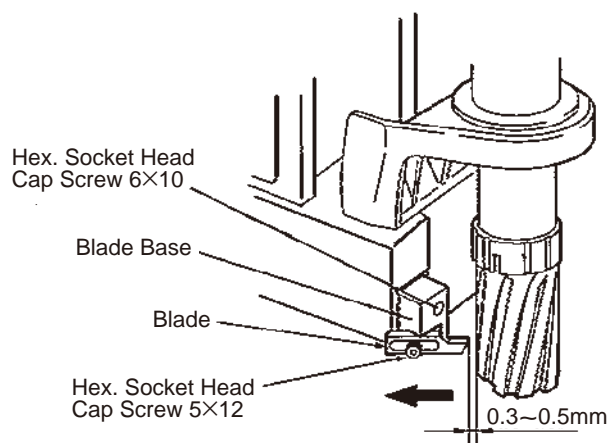

Fig. 33
#### (1) Mount Blade Base. (Fig.33)